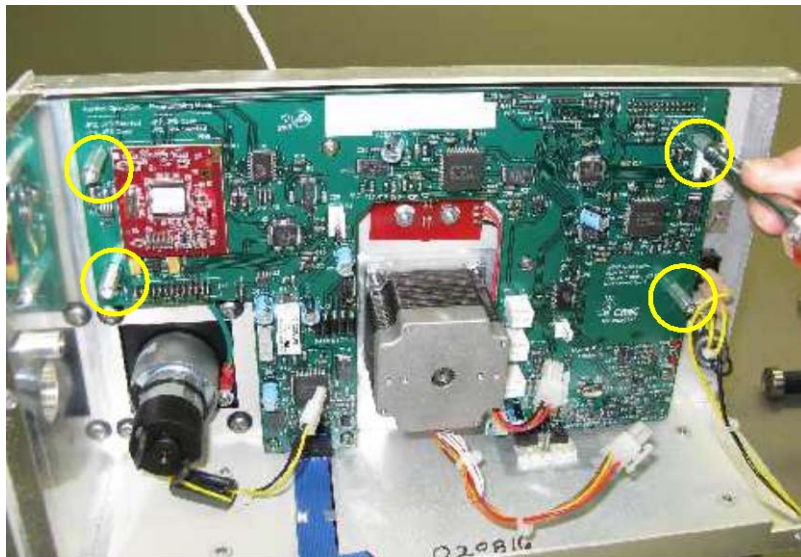

Figure 1-33 Removing the four stand-offs (ASX-260).
7. Remove the four stand-offs with the 1/4" nut driver (Figure 1-33). Set these aside for re-assembly.